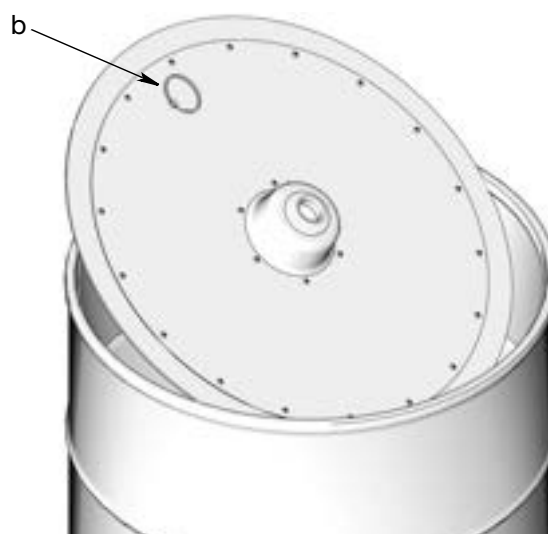

FIG. 6
- If this is an existing installation, reach into drum and pull on follow plate ring (b) to remove follow plate (FIG. 6). Place follow plate on a clean paper, cardboard or clean shop rags. **DO NOT PLACE ON SHOP FLOOR.**